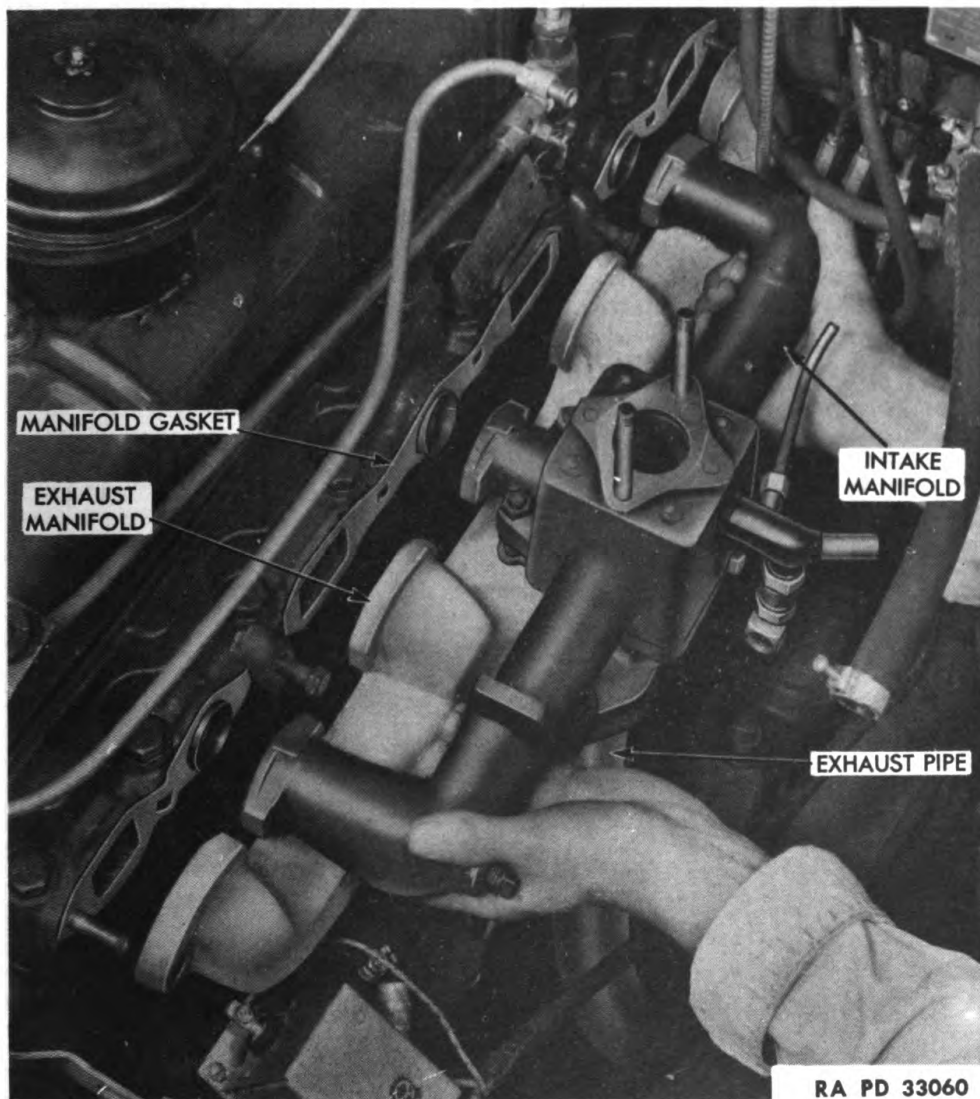

Figure 28—Manifold Replacement
b. Manifold Removal (fig. 28). Remove the two nuts attaching the exhaust pipe to the manifold. Remove air cleaner, carburetor, governor, and gaskets. Disconnect wires, and remove horn with bracket. Disconnect hydrovac vacuum line, windshield wiper line,